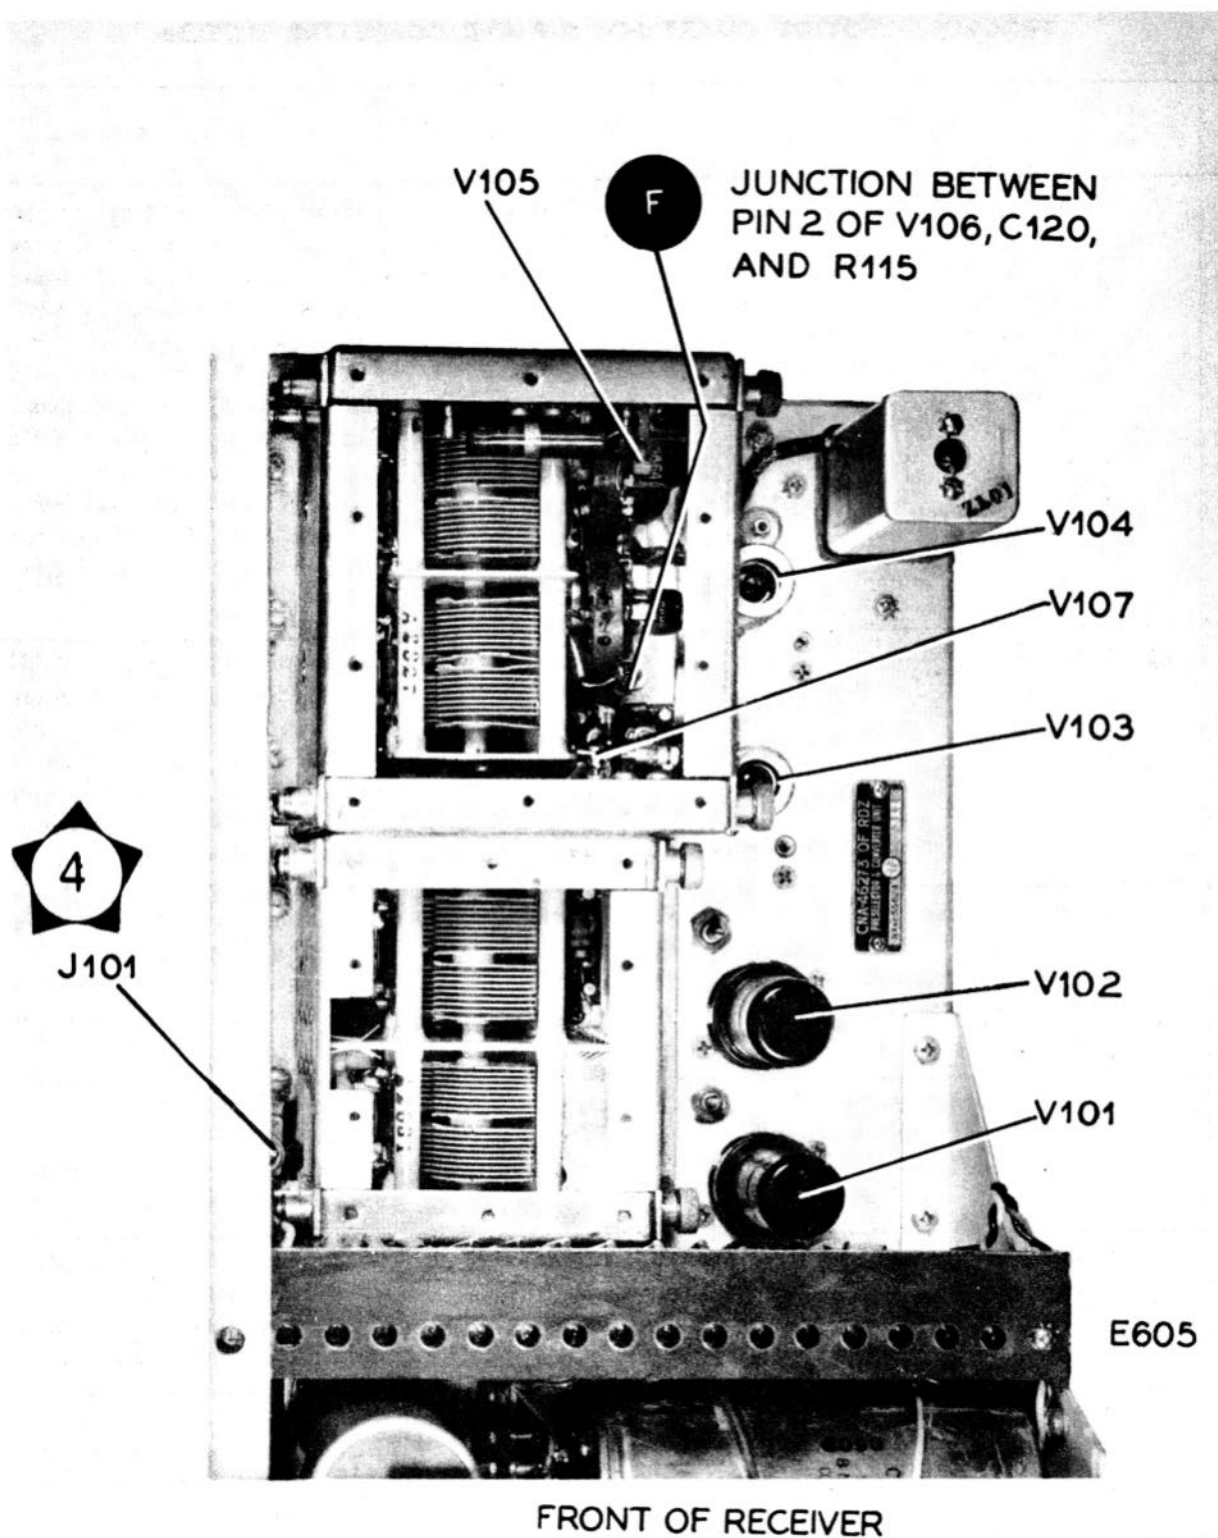

Figure 3-13. Radio Receiver RDZ/RDZ-1, Top Covers Removed, Showing Test Points for R-F and Converter Section
1. Remove connector P408 from connector J101. See figure 3-13.
Test points are shown in figures 3-13 and 3-14.